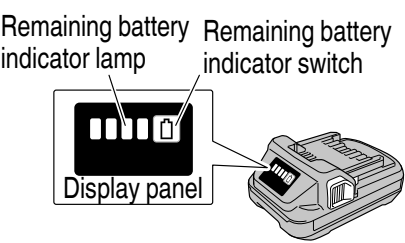

Fig. 15
- You can check the battery's remaining capacity by pressing the remaining battery indicator switch to light the indicator lamp. (**Fig. 15, Table 7**)